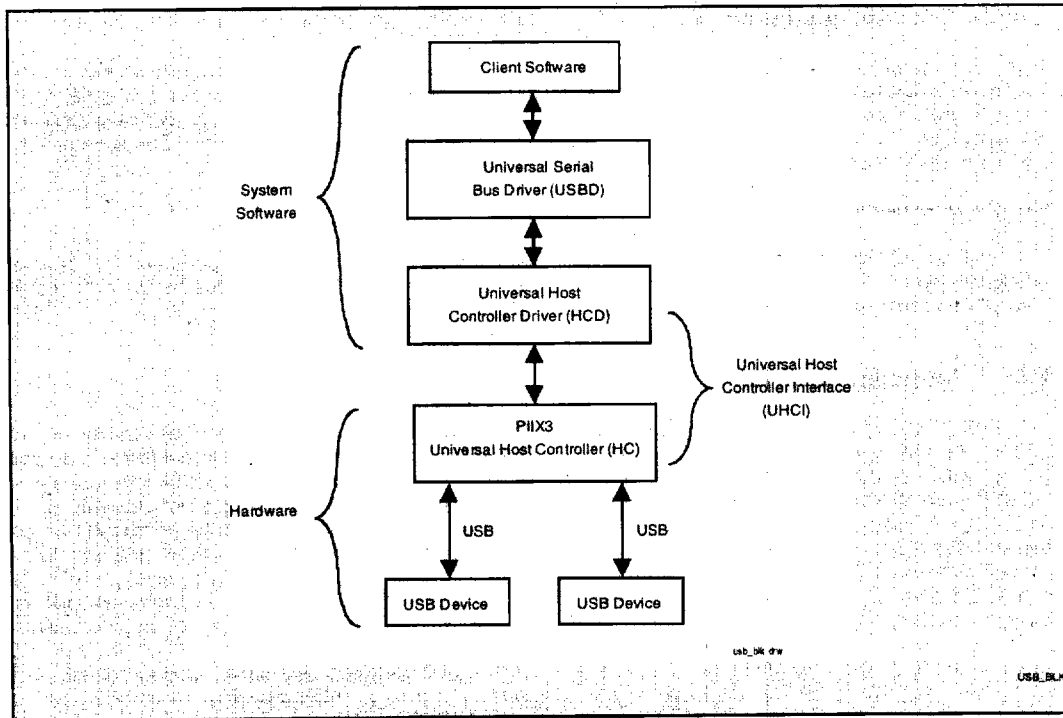

Figure 6. USB System Conceptual View
PIIX3 contains a USB Host Controller (HC). The Host Controller includes the root hub with two USB ports. This permits connection of two USB peripheral devices directly to the PIIX3 without an external hub. If more devices are required, an external hub can be connected to either of the built-in ports. The USB's PCI configuration registers are located in function 2, PCI configuration space. The PIIX3 Host Controller completely supports the standard Universal Host Controller interface (UHCI) and thus, takes advantage of the standard software drivers written to be compatible with UHCI. Figure 6 Shows a conceptual view of a USB system. UHCI consists of two parts— Host Controller Driver (HCD) and Host Controller (HC). The Host Controller interfaces to the USB system software in the host via the HCD. The HCD software manages the Host Controller operation and is responsible for scheduling the traffic on USB by posting and maintaining transactions in system memory. HCD is part of the system software and is typically provided by the operating system vendor. HCD provides the software layer between the PIIX3's Host Controller and the USB software layer (also located in the operating system). The UHCI's HCD software interprets requests from the USB and builds Frame List, Transfer Descriptor, Queue Head, and data buffer data structures for the Host Controller. The data structures are built in system memory and contain all necessary information to provide end-to-end communication between client software in the host and devices on the USB.